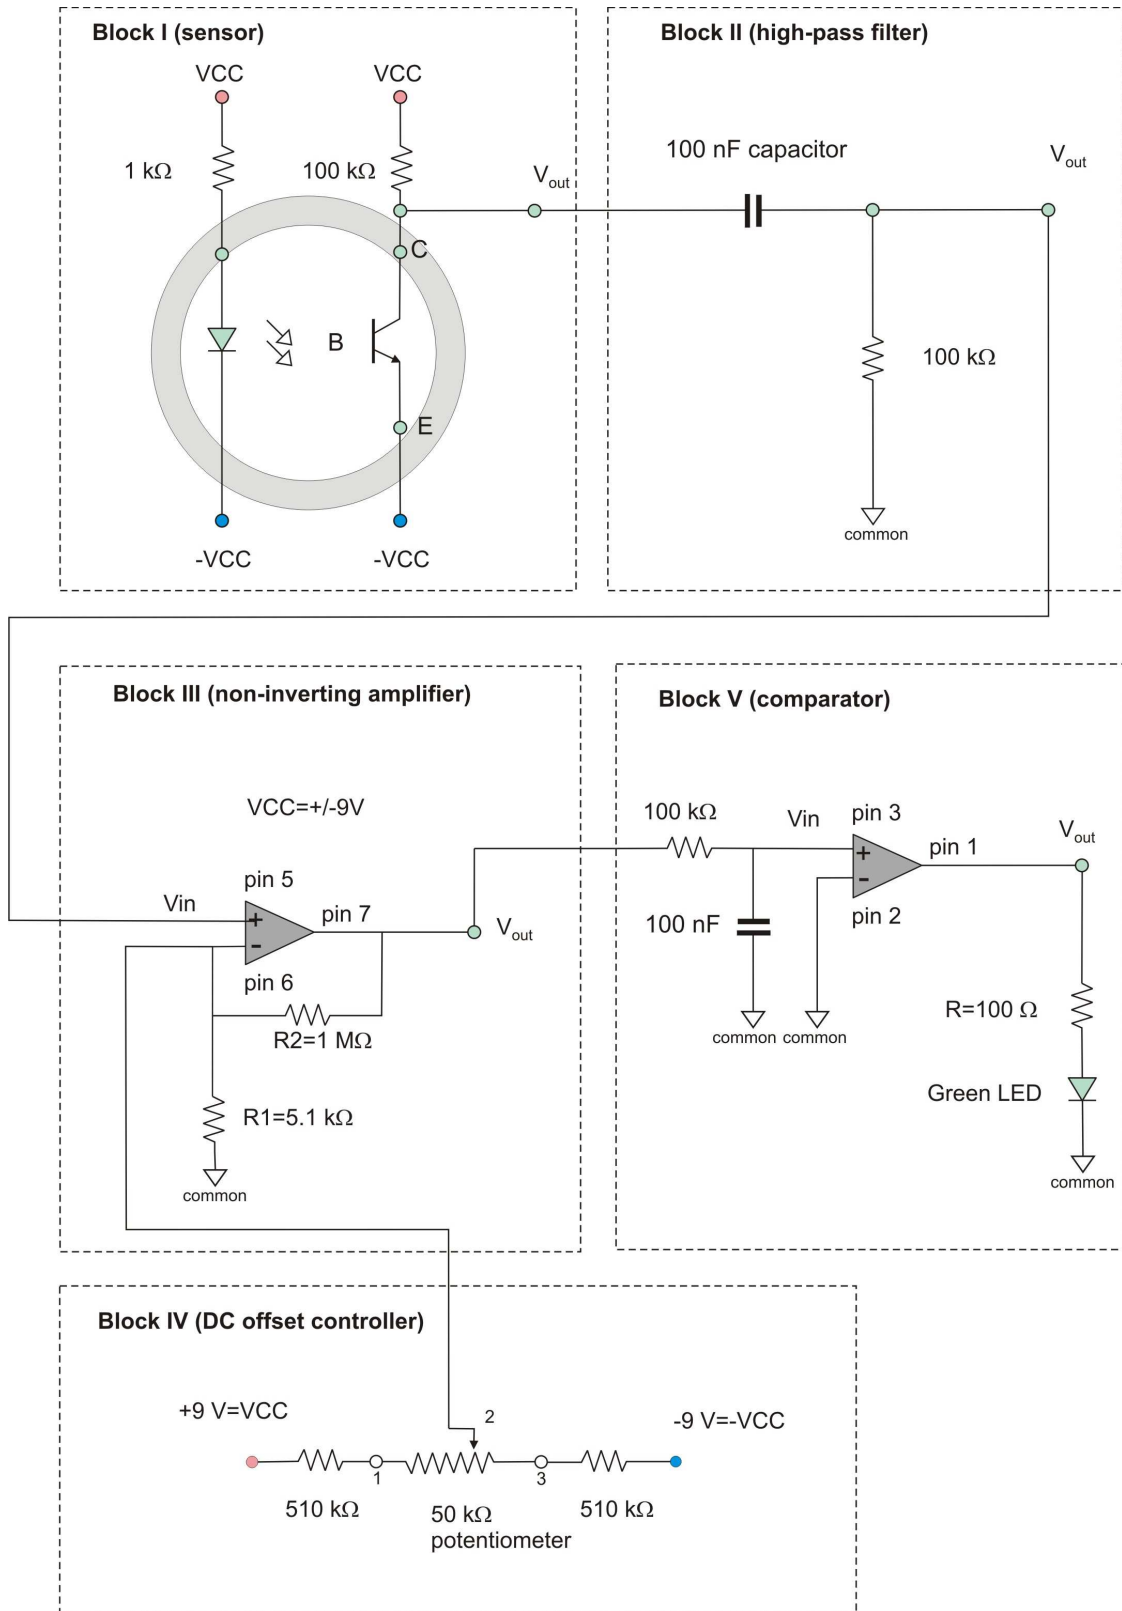

Fig. 7 Block V - the second amplifier stage - the comparator. The sensor circuit is complete.
The complete circuit is shown in Fig. 7 that follows. It includes a new amplifier stage - the *comparator amplifier*. This amplifier does not have a feedback loop. The comparator amplifier is a convenient tool for creating rectangular pulses at the output. It may only be in two states: on or off. When the input voltage to its plus terminal is negative, the output is close to the negative rail of the power supply. When it is positive, no matter how small or large it is, the amplifier's output approaches the upper rail voltage.
The RC block in front of the comparator (on the left side of Block V) in Fig. 7 is the so called *low-pass filter* to be studied in class. This filter is optional but quite useful: it removes high-frequency components (spikes) from the signal prior to comparator. Without this filter, the comparator might respond to a high-frequency noise at a frequency that is much higher than the heart rate.
Please add Block V shown in Fig. 7. Turn the power supply on. With the finger in the PVC tube, the LED should blink precisely in tact with your heart rate. If this is not the case, try to hold the finger in the same position and slightly adjust the potentiometer.
2. Why do we need the high-pass filter in the heart-rate sensor circuit from Fig. 7. Do you think the circuit without the filter will still function? *Hint:* short out the filter and observe the circuit operation.
3. What is the gain of the first amplifier stage (Block III) in Fig. 7?
4. What is the gain of the second amplifier stage (Block V) in Fig. 7?